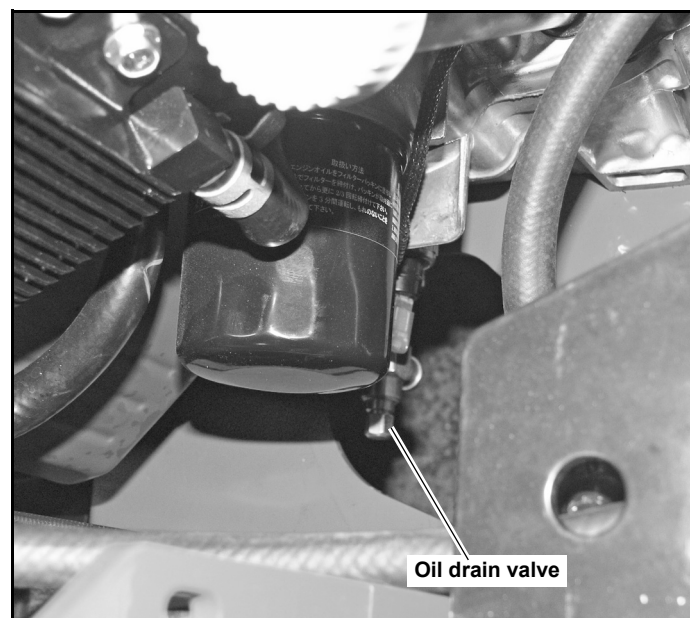

Figure 4-4
### C. Draining the engine oil (units equipped with oil drain valve as shown in Figure 4-4).
1. Locate the oil drain valve on the engine. Figure 4-4